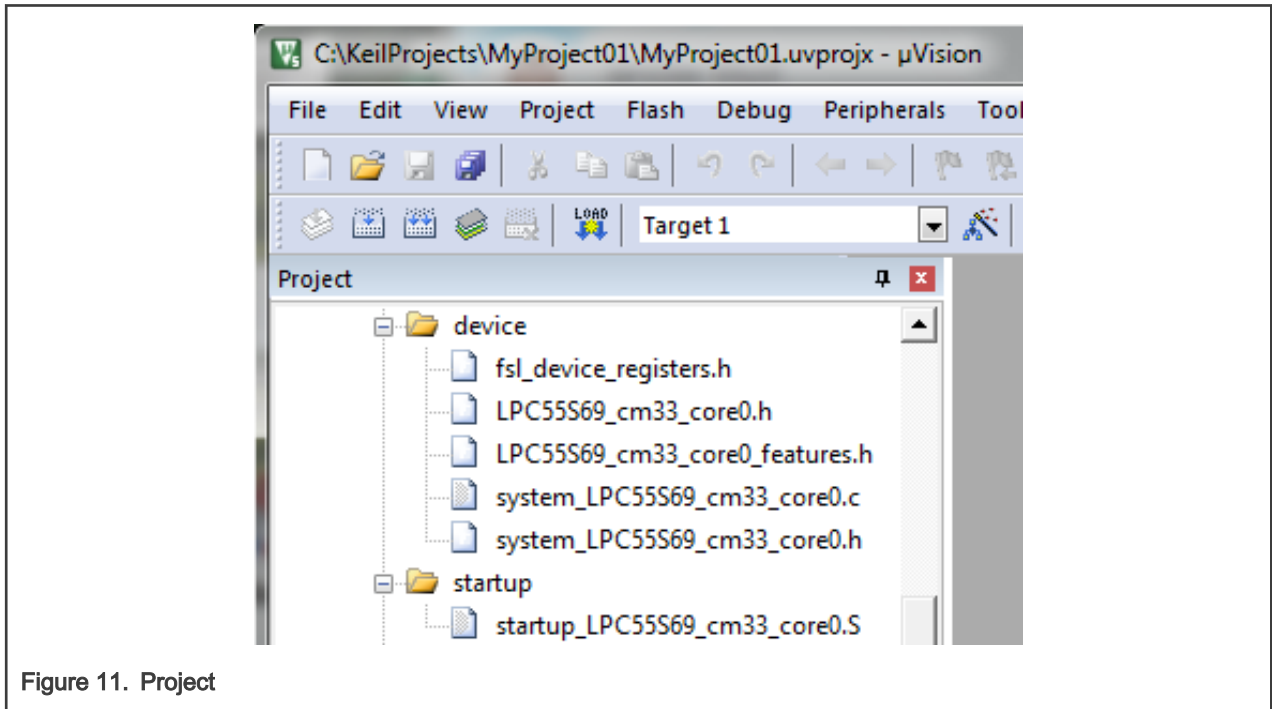

Figure 11. Project
10. Click OK, and a new project is created. The new project is now visible in the left-hand part of Keil μ Vision. See Figure 11.
13. Select Use Single Precision in the Floating Point Hardware option. See Figure 11.